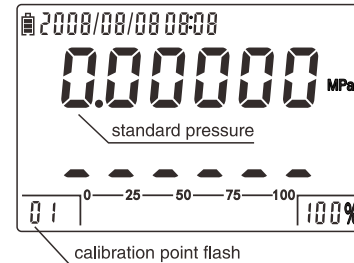

Figure 5-3-1: 1st point entrance
- (1) Press  to enter into passport menu, input the password "2003" and press  to enter into calibration menu.
- (2) Select **IP\_CAL** and press  to enter into the entrance interface. The **【 01 】** of left reading area is 1st calibration point, the user can select points by using  . Please press  to start calibration. (as figure 5-3-1)